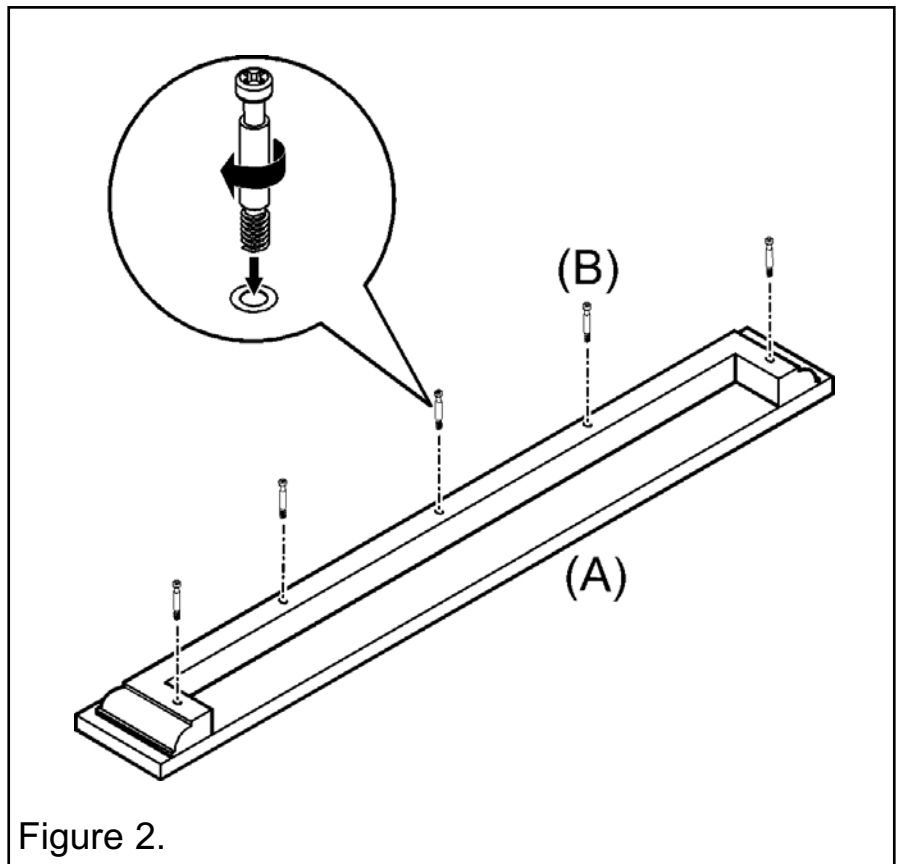

Figure 2.
- Lay the surround top face down on a clean, flat, non-marking surface as in figure 2.
- Locate and screw the five cambolts (B) into the surround top (A) (See figure 2).